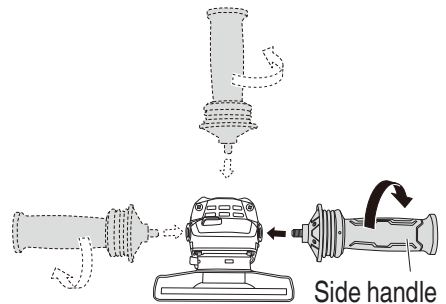

Fig. 13
1. Hold the grinder firmly by its housing and side handle (**Fig. 13**).